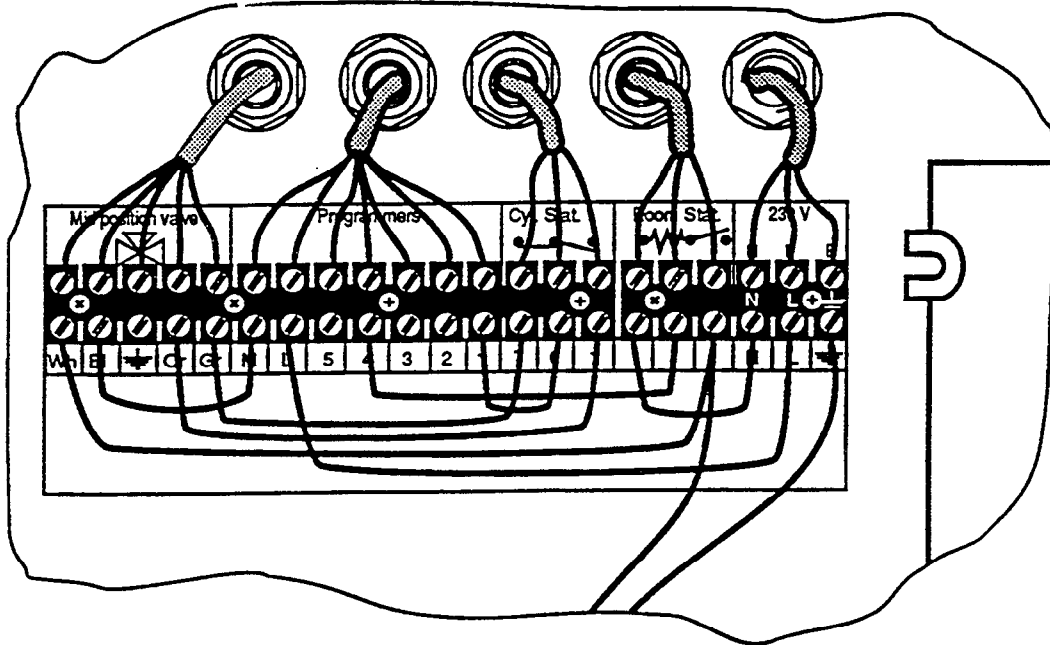

Fig. 24
- Fit support bracket (A).d) Fit 14 mm tail drain bend using washer provided.
N.B. The drain must be 22 mm and the 14 mm drain bend from the safety valve must be installed so that discharge of water is readily visible. A tundish arrangement is acceptable. The connection must NOT be made by a capillary or compression fitting directly between the 14 mm drain bend and the 22 mm discharge pipe without an 2 mm air gap. see fig. 24.